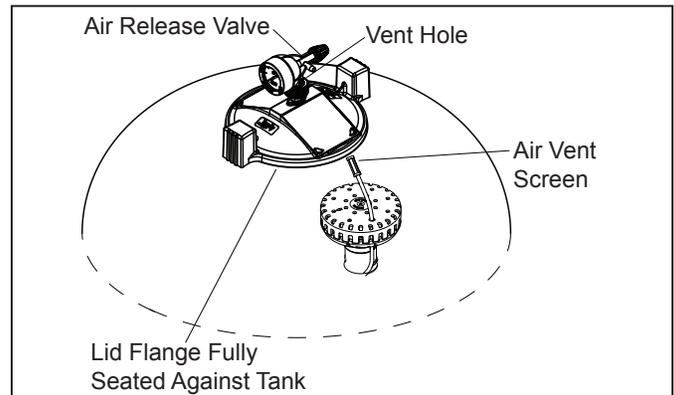

Figure 12. Filter Lid Installation
- Check that the tank lid is correctly seated and tight, see Figure 12, and ensure the pressure gauge/relief valve assembly is fully installed in the lid.